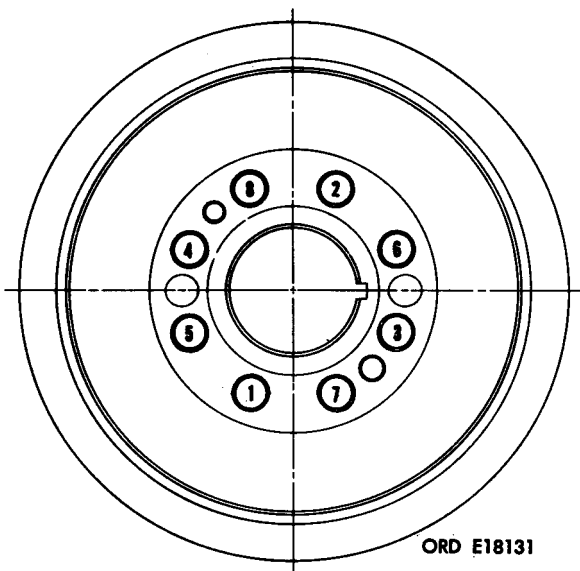

FIGURE 206. TIGHTENING SEQUENCE FOR CRANKSHAFT DAMPER AND PULLEY ASSEMBLY ATTACHING SCREWS.
- (2) Tighten the eight cap screws securing the crankshaft damper to the pulley assembly to a torque of 300 pound inches following the sequence shown in figure 206.
Note. After once torquing the cap screws to 300 pound inches, they again must be retorqued to 360 pound inches in proper sequence (fig. 206).